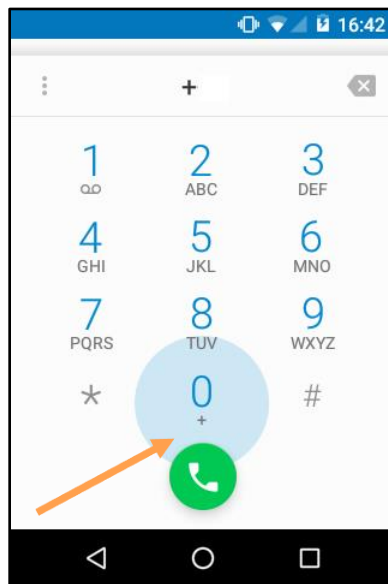
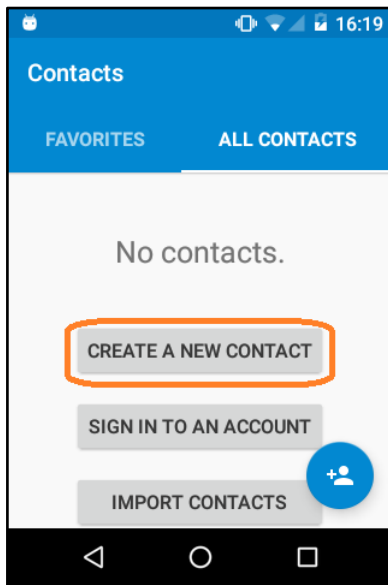

Figure 9: Android Phone Keypad
Figure 11: Create a New Contact
Users can make a phone call by tapping the phone icon on the Android app screen which then displays the Android phone keypad. To make a call from the SHOUT sp, first dial the country code, then the area code, and then the phone number. (Country code for the US is +1 or 001). To start a call with a '+' sign, press and hold the '0' key on the Android phone keypad, as seen in Figure 9: Android Phone Keypad below. The plus (+) sign displays in the phone number field. When the complete phone number has been entered, tap the call icon to dial the phone, as shown in Figure 11 (on the following page).
1. Tap the **Contacts** icon on the Android app screen to open the *Contacts* screen, as seen without any contacts in **Figure 11**.